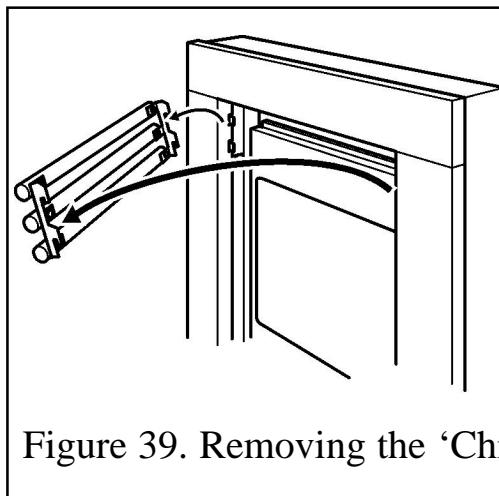

Figure 39. Removing the 'Chic' hanging trims
- Remove the two tubular trim sets from the top and bottom of the fascia. To do this simply lift upward and forward (See figure 39).
- Unscrew and remove the two screws that secure the bottom of the fascia sides to the convection box (See figure 39).